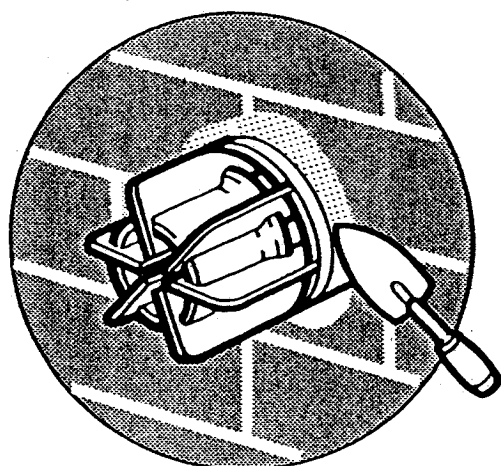

Fig. 58
10. Make good between the wall and the air duct inside and outside the building if the internal fitting kit has not been used (Fig. 58).